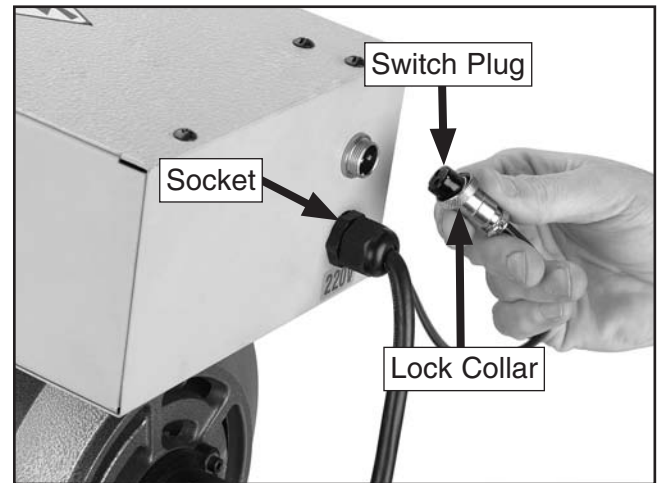

Figure 14. Connecting switch plug.
6. Connect the handle switch plug to the control box by aligning the plug with the socket, then threading the lock collar (**Figure 14**).